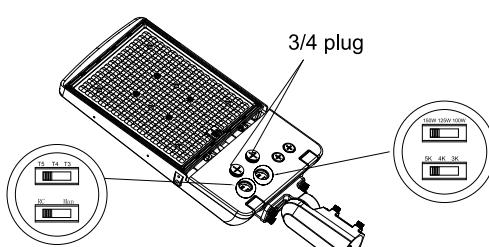

Figure 2a
1. Remove the 3/4 NPT plug on the far left side of the fixture. Adjust the switch with options "RC" and "Man" to the "RC" (Remote Control) setting. (see Fig. 2a)